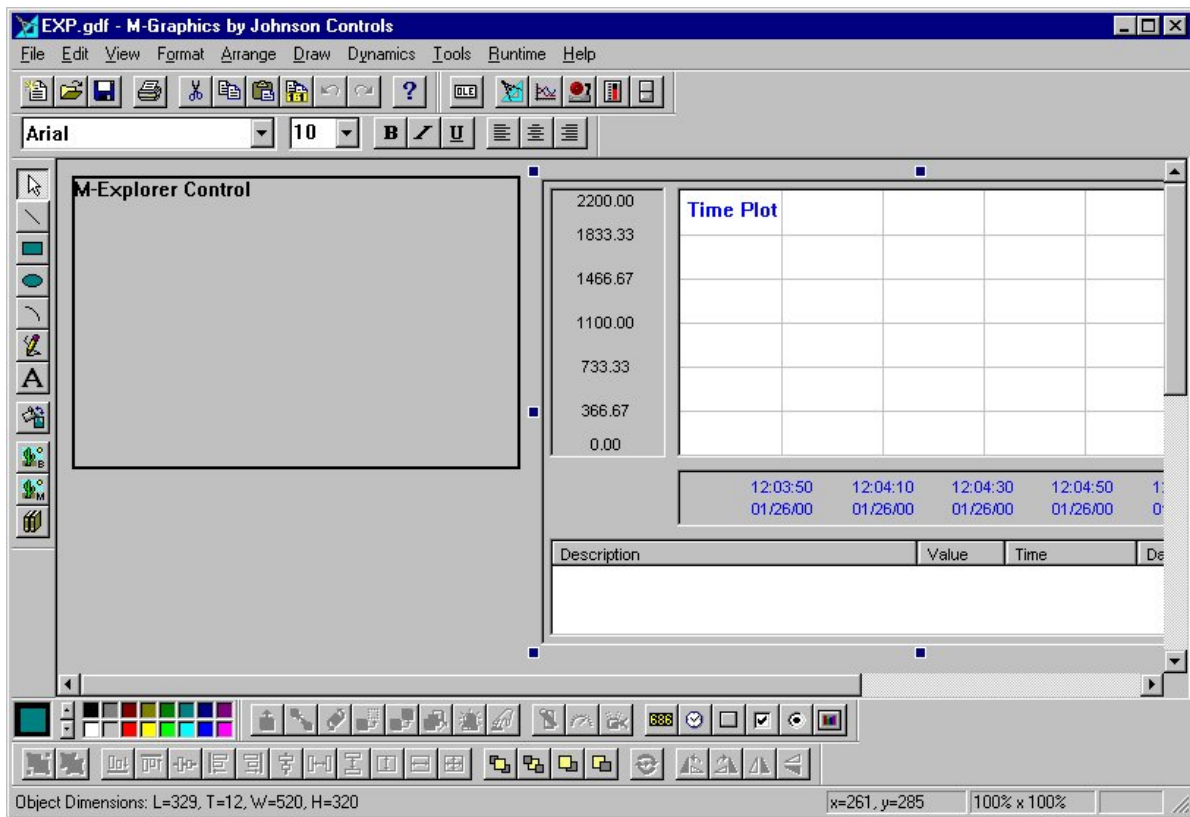

Figure 7-1: M-Explorer and TWXView32 in M-Graphics Configure Mode
2. Embed the M-Explorer ActiveX Control into the same M-Graphics display as the TWXView32 ActiveX Control (Figure 7-1). Refer to the *Embedding M-Explorer ActiveX Controls into M-Graphics* chapter.